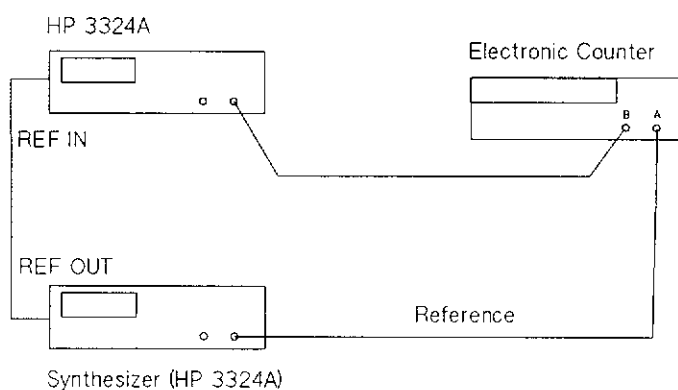

Figure C-4. Phase Increment Accuracy Test Set-Up
1. Connect the equipment as shown in Figure C-4.